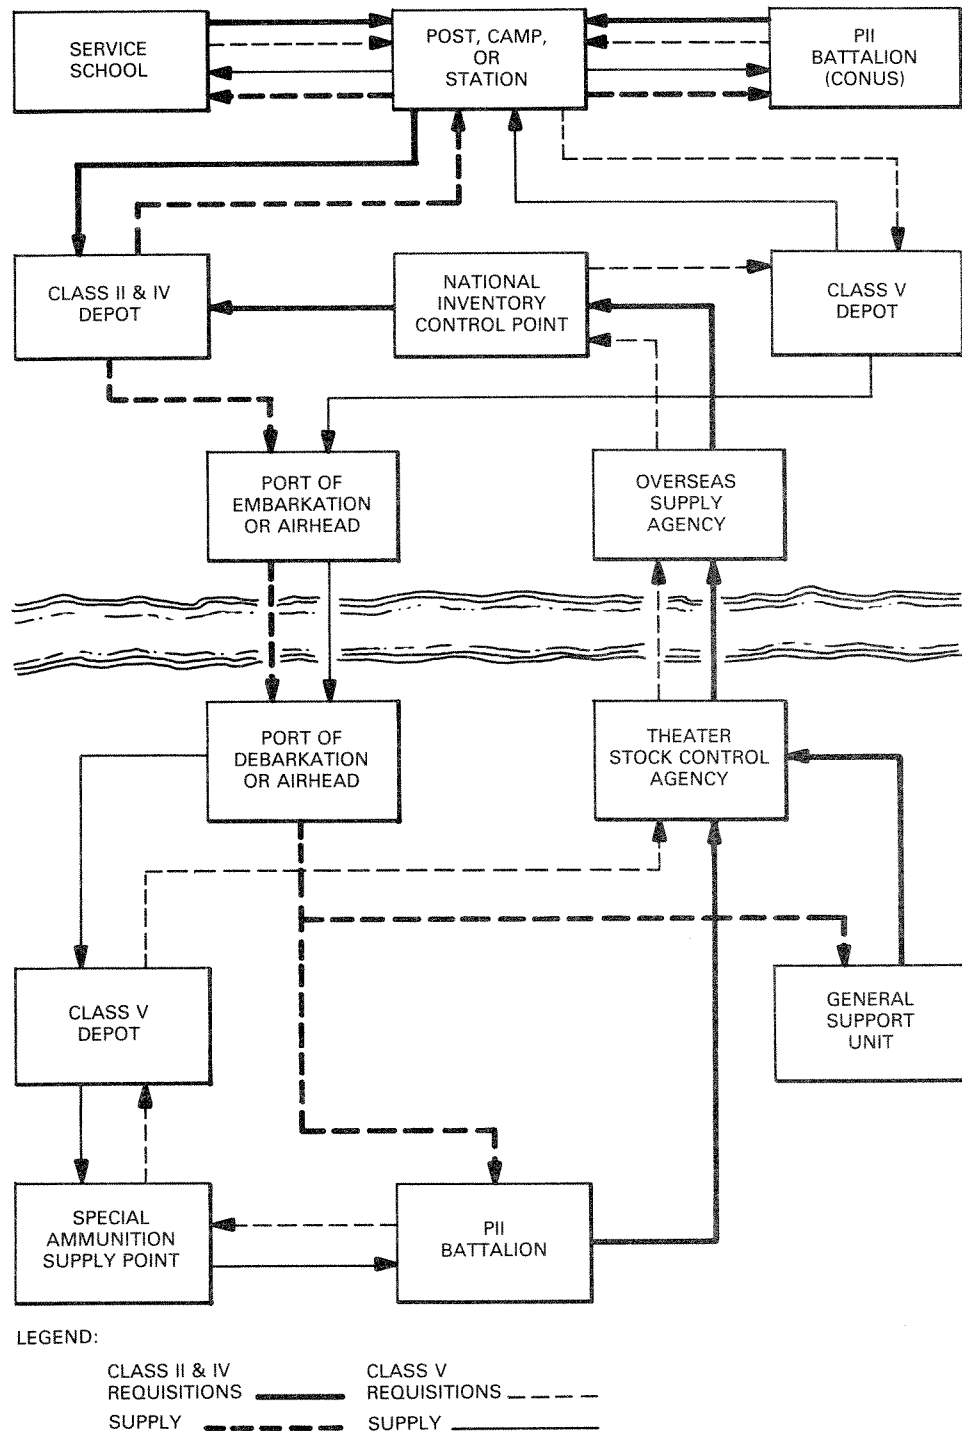

Figure 4-2. Resupply Requisition Flow
Requisitions for missiles and equipment originate within the battalion. Requisitions from the firing battery are routed through the headquarters (HQ) and service battery. The requisitions are then routed to the theater stock control agency. Theater depot stocks of PII items are established before system deployment. Theater stocks of missiles and ORF's of GSE are stored as directed by the theater commander. CONUS stocks are maintained at authorized stations and depots. Figure 4-2 shows the resupply requisition flow.